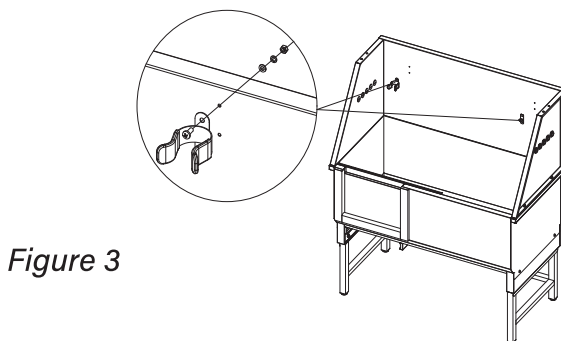

Figure 3
Fix the Sprayer Holder (10) and the Loop Ring (11) on the Tub Backsplash (8) with M5*14 Hex Bolt x 4 (D), M5 Washer x 4 (A), M5 Spring Washer x 4 (B), M5 Nut x 4 (C) by crosshead screw driver. See Figure 3.